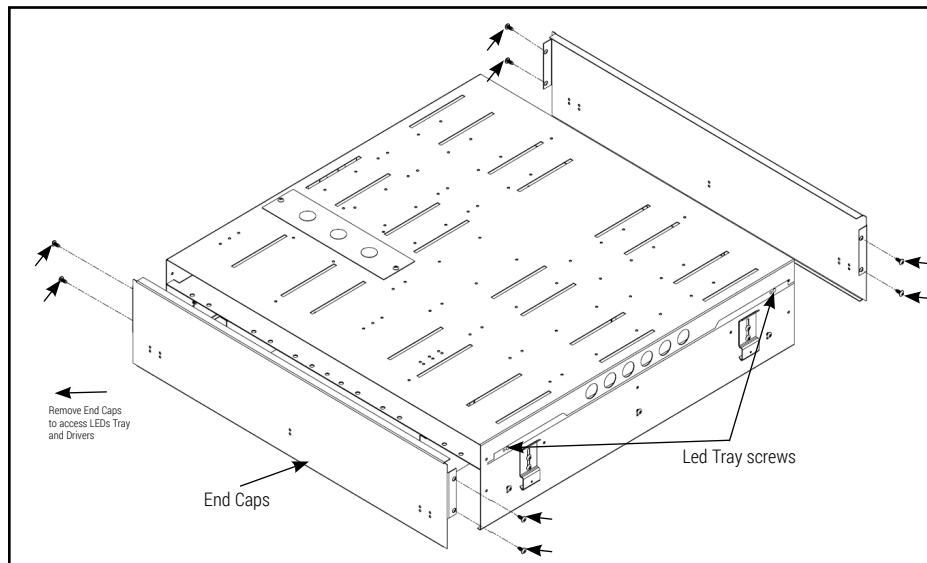

Figure 6.
2. Remove End caps, 8 screws 2 per side. Remove LED tray, 4 screws 2 per side. Slide LED tray towards open end to access Driver. (Figure 6)